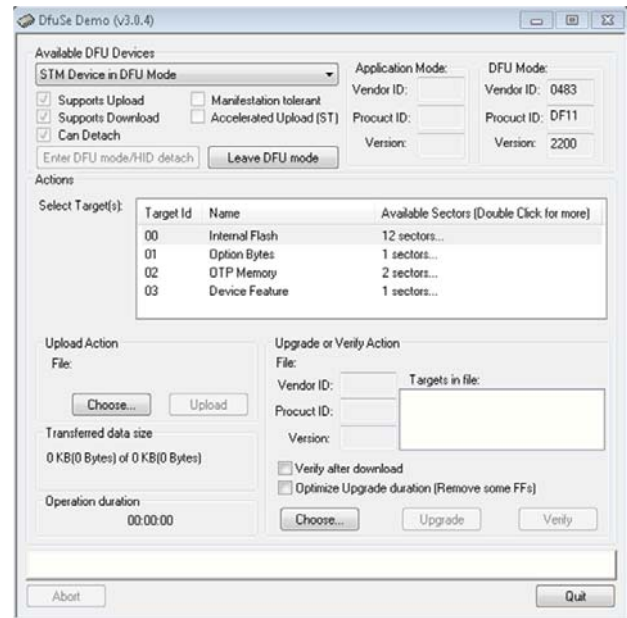

Figure 8. **DfuSe Demo** Settings
6. Open the **DfuSe Demo** by going to **Start** > **All Programs** > **STMicroelectronics** > **DfuSe** > **DfuSe Demo**. Figure 8 shows the **DfuSe** demo settings at startup.